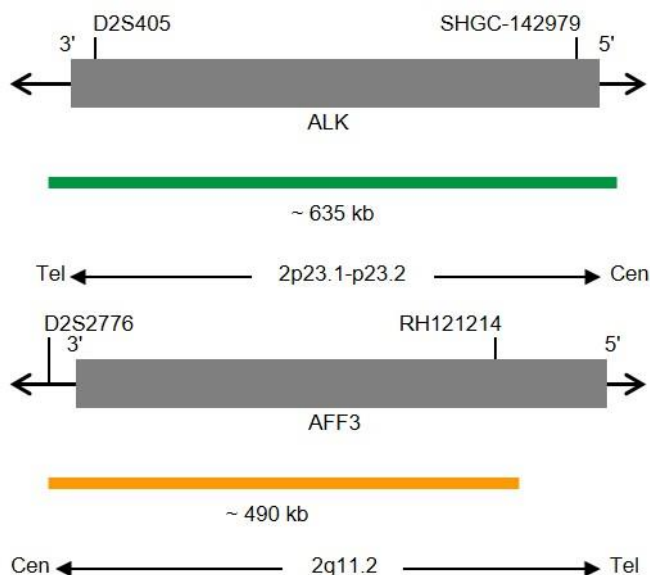

Fig. 1: Top: SPEC ALK Probe map, Bottom: SPEC 2q11 Probe map (not to scale)
- ZyGreen (excitation 503 nm/emission 528 nm) labeled polynucleotides (~10 ng/ μ l), which target sequences mapping in 2p23.1-p23.2* (chr2:29,460,144-30,095,822) harboring the ALK gene region (see Fig. 1).
- ZyOrange (excitation 547 nm/emission 572 nm) labeled polynucleotides (~4.5 ng/ μ l), which target sequences mapping in 2q11.2* (chr2:100,132,806-100,621,725) (see Fig. 1).